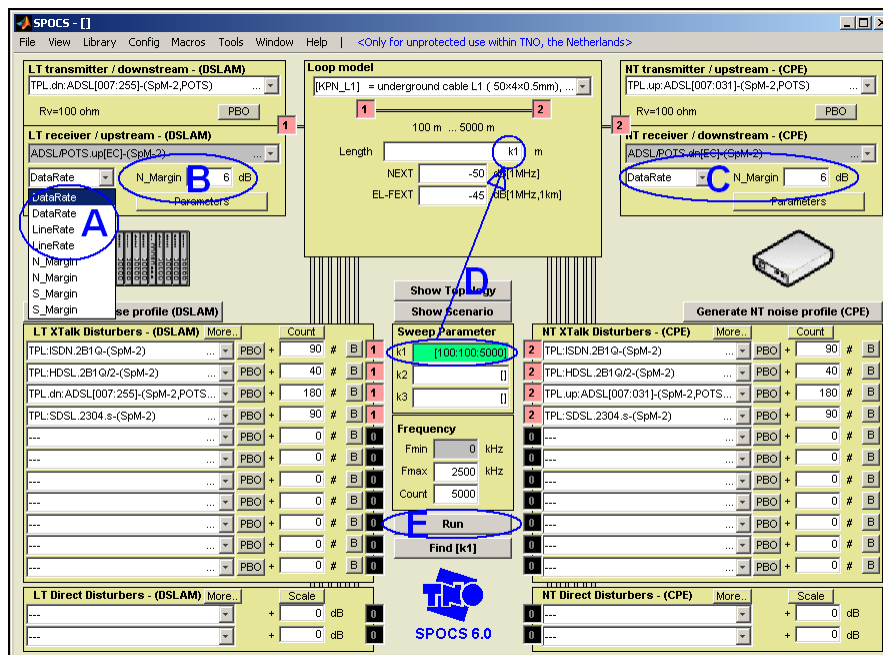

Figure 26: Relevant settings for a bitrate calculation.
Figure 26 highlights the relevant steps to enable such a bit rate calculation.
- [D] Specify the loop length as a value that has to be swept. Simply define the length as the result of sweep parameter “k1”, and subsequently define a proper sweep. In the example of figure 26, we have defined the sweep as “[100:100:5000]” meaning a sweep starting with “100”, ending with “5000”, in steps of 100. The result is that the loop length sweeps from 100 meter to 5 km.